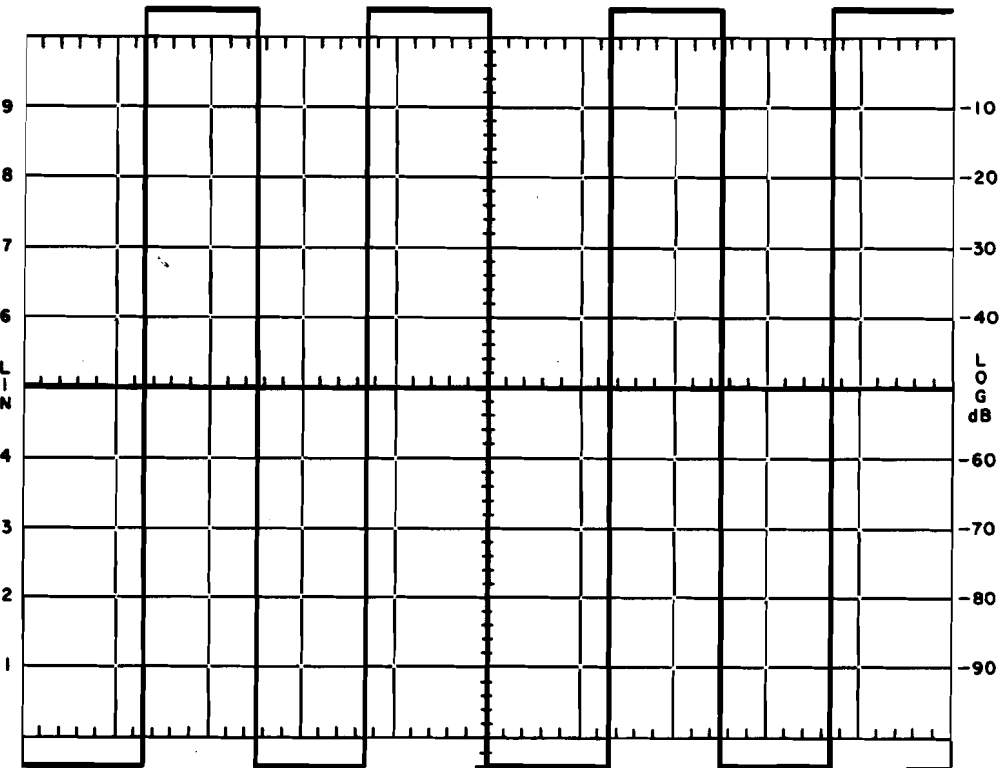

Figure 6-4. Test Waveform
4. Depress SIGNAL IN, A, and B VIEW A pushbuttons in this sequence to display the calibration waveform, and the corresponding horizontal line running through it (see Figure 6-4).